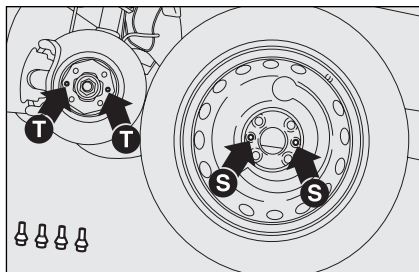

fig. 8
- install the space-saver spare wheel matching the holes **S**-fig. 8 with the corresponding pins **T**;
- Fit the normal wheel matching the holes **S**-fig. 8 with the corresponding pins **T**;